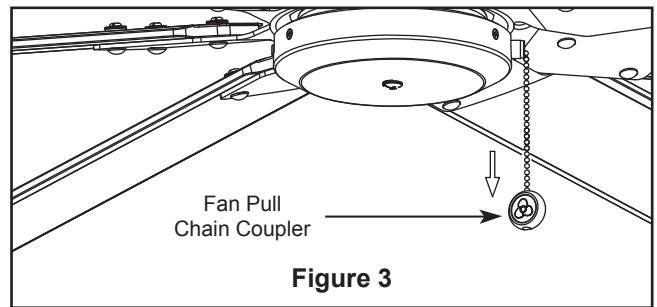

Figure 3
3. Check the operation of the fan by gently pulling on the fan pull chain coupler. (Figure 3)